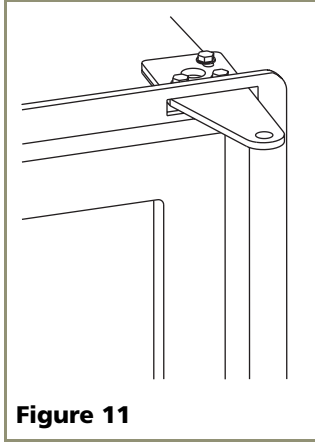

Figure 11
9. Gently slide upper hinge through flange and fasten upper hinge to unit (three screws). Partially tighten screws. See **Figure 11**.